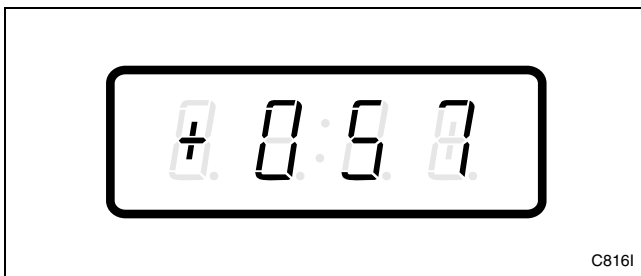

Figure 202
3. Press the DELICATES (+) or the COLD (-) keypad to scroll through the programmable options until “+057” appears in the VFD. Refer to *Figure 202*.